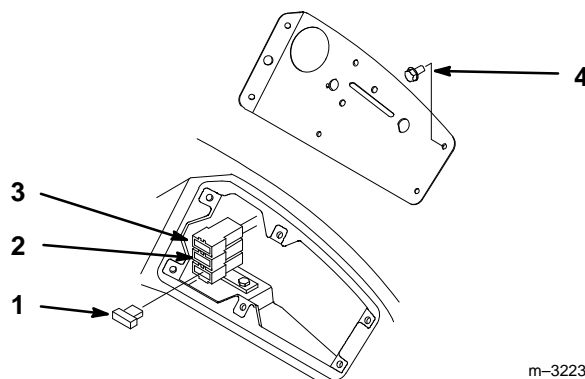

Figure 51
1. Remove dash panel screws to gain access to fuse holder (Fig. 51).
2. To replace fuses pull out on the fuse to remove it (Fig. 51).